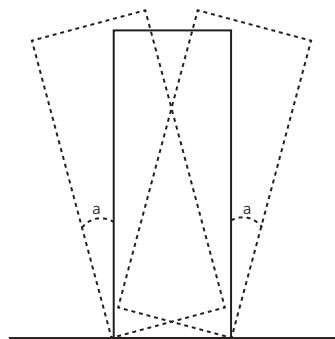

Figure 3-2 Tilt angle
- The tilt angle of the cabinet must meet the requirement as shown in Figure 3-2. The angle before unpacking: $a \leq 15^\circ$; the angle after unpacking: $a \leq 15^\circ$.